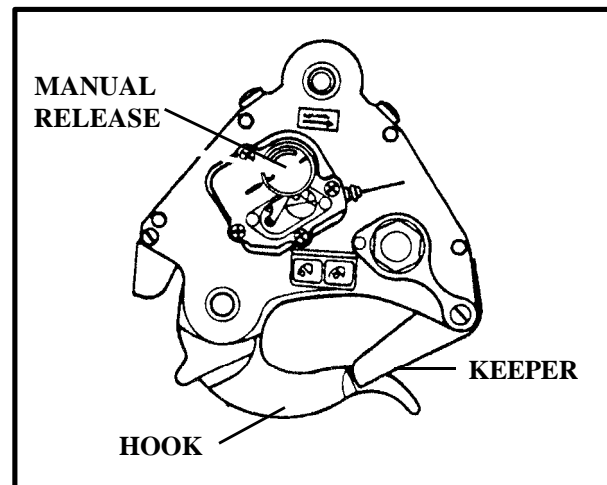

Figure 2-15. H-47 Forward and Aft Cargo Hooks
(3) The forward and aft cargo hook (Figure 2-15) maximum capacity when used to carry individual single-point loads is 17,000 pounds; however, loads that weigh 7,000 to 10,000 pounds are normally carried on the center cargo hook. Normally, the two hooks are used together to carry a dual-point (tandem) load and the maximum load weight capacity is 25,000 pounds. The aircrew can open the forward or aft cargo hook electrically or manually from inside the aircraft. A manual release knob is located on the right-hand side of either cargo hook. In an emergency, the ground crew can rotate the manual release knob counterclockwise to open the cargo hook.